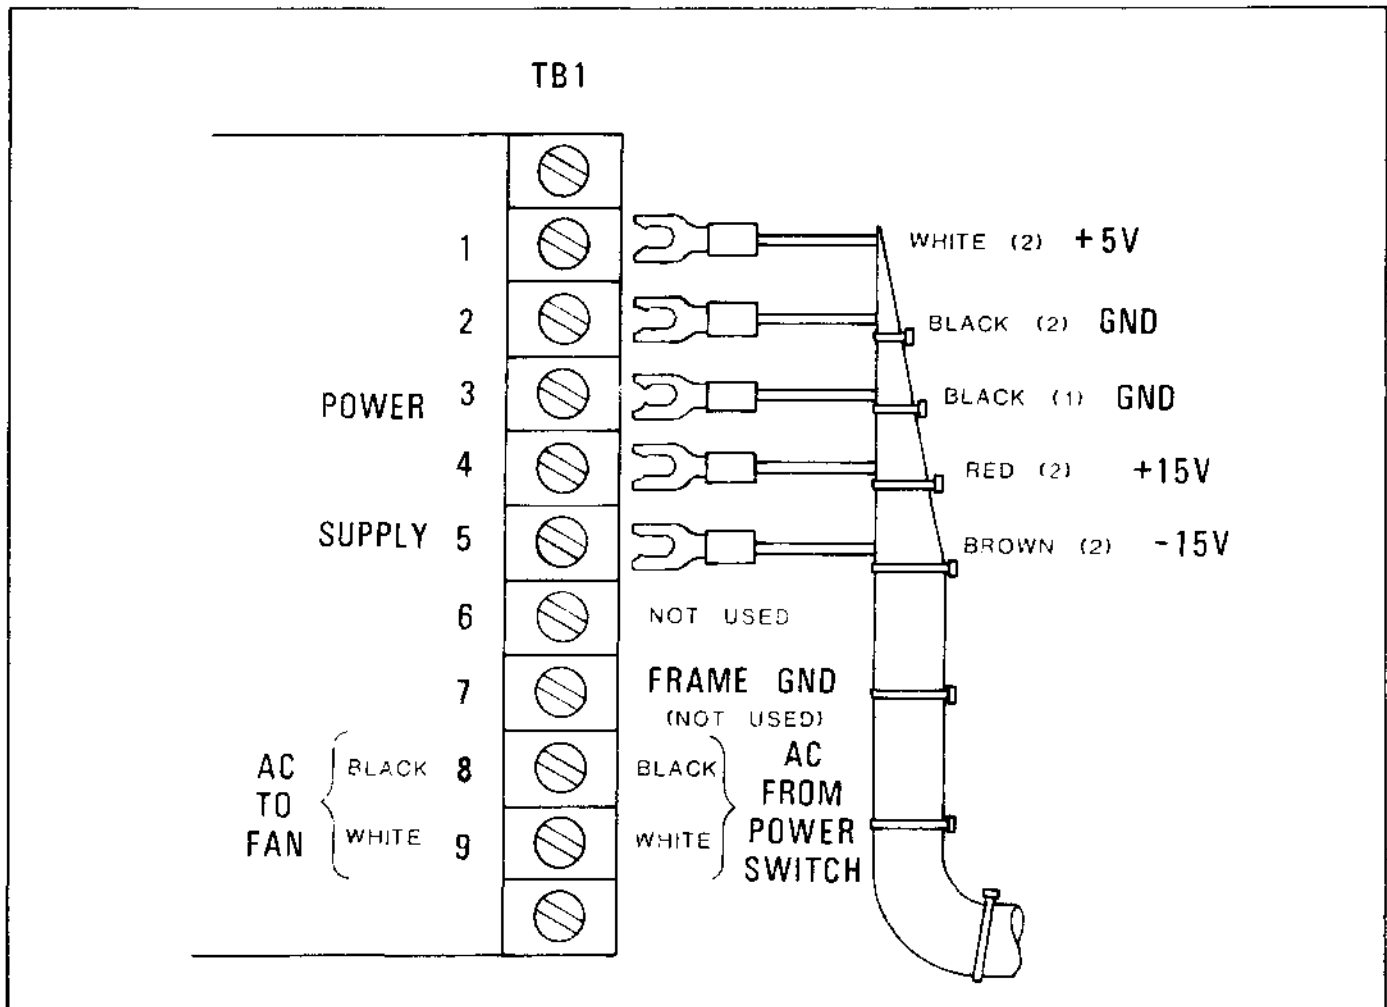

Figure 3-6. Power Supply Connections
- (1) Tilt the HyTerm up and connect the wires to the new supply as per Figure 3-6. Observe the caution about tilting the HyTerm noted in step (5) of the removal procedure.
- (2) Swing the power supply into position inside the printer casting. Make sure all wires and cables are positioned securely.
- (3) Holding the power supply in position, insert the mounting screws through the top cover screen and the printer casting and start them into the threads in the power supply frame. Start all five mounting screws.
- (4) Tilt the HyTerm down onto its feet. Tighten all five mounting screws securely.
- (5) Replace the two rear circuit boards noted in step (5) of the removal procedures.
- (6) Refer to section 3.4.3, +5 volt adjustment, steps (1) - (9), to check out the Power Supply.
- (7) Tilt the HyTerm back up.
- (8) Replace the bottom plate: slide it under the rear screws first, bow it out in the center and slip it under the front screws. Then insert the two side screws and tighten all of the screws.
- (9) Tilt the HyTerm down onto its feet. Remove the circuit board extender and replace the HCURL board, if applicable. Install the top cover, the paper cradle, and the platen. Close the access cover, insert a sheet of paper, apply power, and test thoroughly.